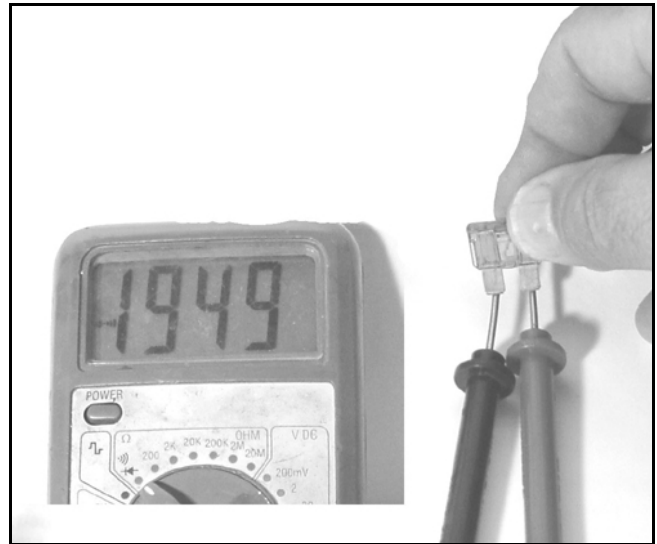

Figure 10J-1. Fuse Test
- b. Connect one test lead to each fuse blade (Figure 10J-1).